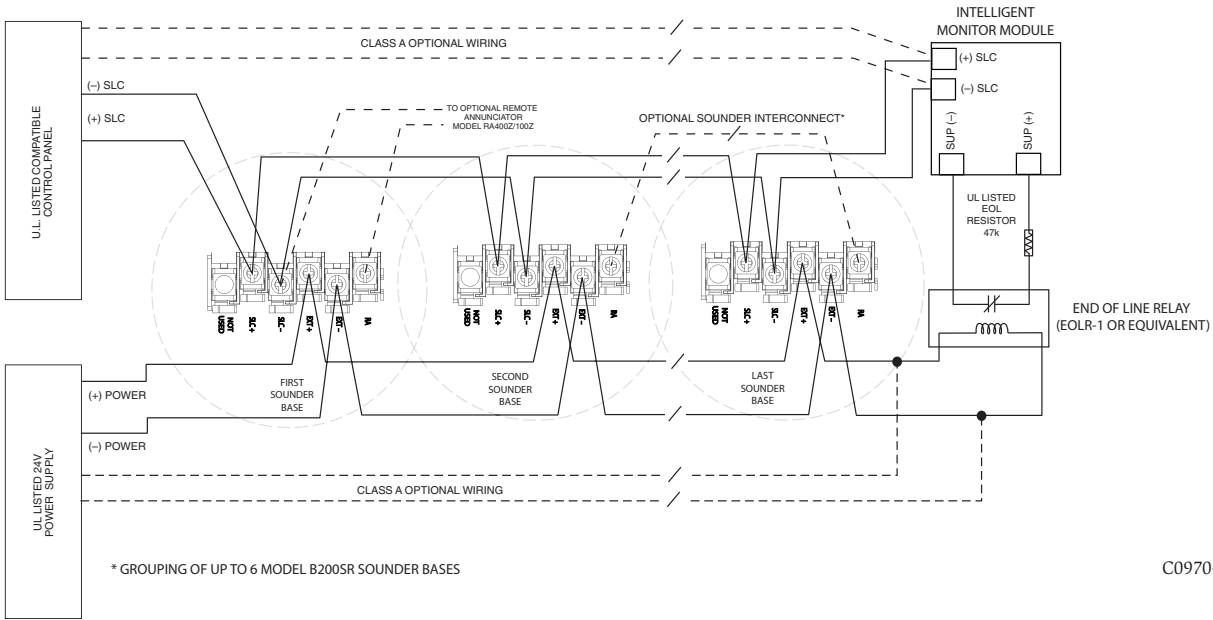

FIGURE 5: WIRING DIAGRAM
1. If configured as in Figure 4 and 5, reverse the polarity of the external 24VDC supply. If configured as in Figure 5, turn on the Intelligent Relay Module. All B200SR bases on the loop should sound.